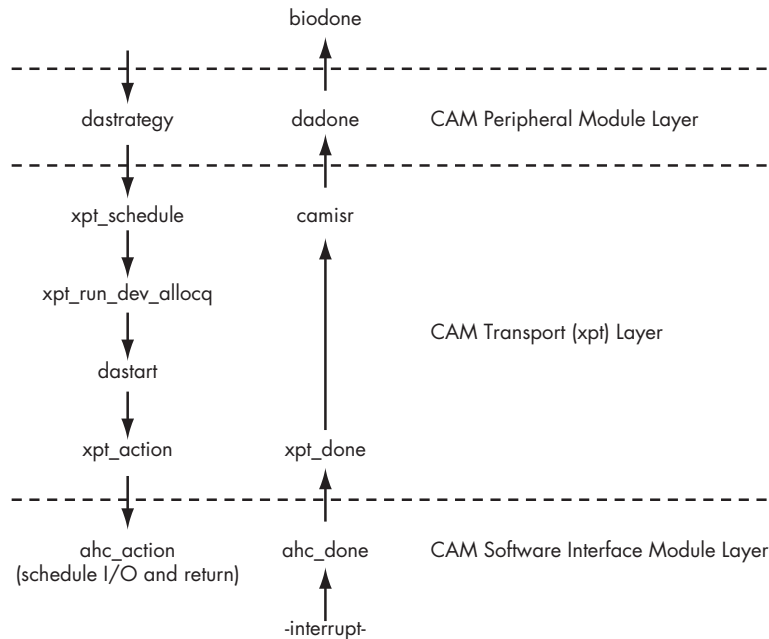

Figure 14-1: The path of an I/O request through the CAM subsystem
In Figure 14-1,1 the kernel passes a block-centric I/O request to the da(4) peripheral module. As you would expect, this causes da(4)’s strategy routine (dastrategy) to execute.
1. Figure 14-1 is adapted from *The Design and Implementation of the FreeBSD Operating System* by Marshall Kirk McKusick and George V. Neville-Neil (Addison-Wesley, 2005).